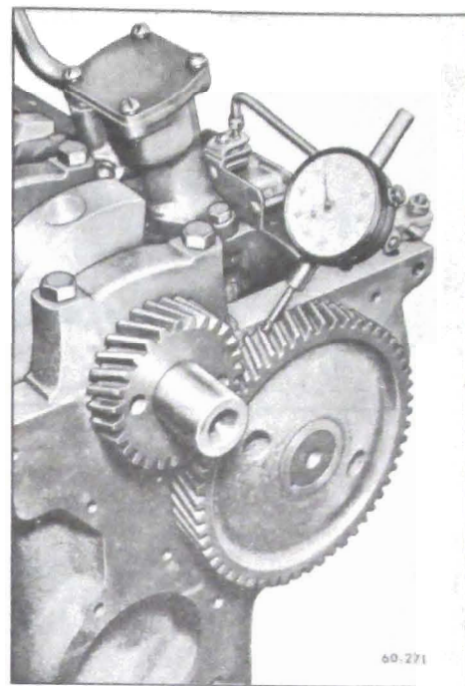

Figure 60-133--Checking Timing Gear Backlash
5. Check the backlash between the timing gear teeth with a dial indicator. The backlash should not be less than .004" nor more than .006". See Figure 60-133.